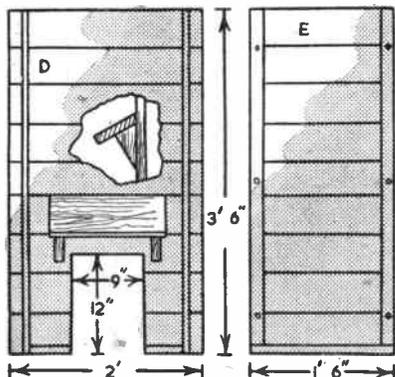
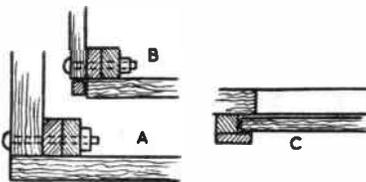

Fig. 1
Fig. 2
Fig. 1 shows the sides and ends, the dimensions given being suggested for indoor use, being small enough to fit in a corner of the room, or preferably, the landing. (A) in the diagram, (Fig. 2), shows the corner joints with $\frac{3}{4}$ in. by $1\frac{1}{2}$ in. timber as the posts. One strip of this material is nailed to the boards of the ends and one to back and front parts, all being securely held together with 3 in. steel bolts.
Cut the boards to the required lengths for sides, back, and front parts, necessary to make up the height of 3ft. 6ins. Employ tongued and grooved boards, $5\frac{1}{2}$ ins. wide and $\frac{5}{8}$ in. thick. These are kept together with the corner jointing strips, the positions of which are shown in Fig. 1, (D) being front, or back parts, and (E) the ends of the bin. In the front and back parts, the strips are spaced $1\frac{1}{8}$ ins. from the side edges. To support the floor, 1 in. sq. fillets are nailed across at the bottom of all parts.
Cut the door itself from $\frac{3}{4}$ in. plywood. To keep it in place cover the side strips with $\frac{1}{2}$ in. by $1\frac{1}{2}$ in. wood, thus making a grooved runway for the door to slide up and down in. To the door fit a small metal knob. Above details are shown at (C), Fig. 2.
If the bin is for indoor use, a neat effect can be obtained by hiding the cross grained ends of the boarding by fixing the corner post strips of the front and back parts of the bin $\frac{3}{4}$ in. from the side edges, instead of $1\frac{1}{8}$ ins. This will leave a rightangled gap at the corners, which can be filled up with square section vertical strips making a neat finish, as shown (B), in Fig. 2.